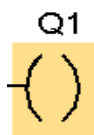

Figure 4.6 Normal Coil
Coils represent relays that are energized when power flows through them. When a relay coil is energized, it sets its output state to HIGH (1) or ON. Its output goes LOW (0) or OFF in the absence of power. Figures 4.6 and 4.7 show the symbols of the coil types that will be used in this module; they are as follows: